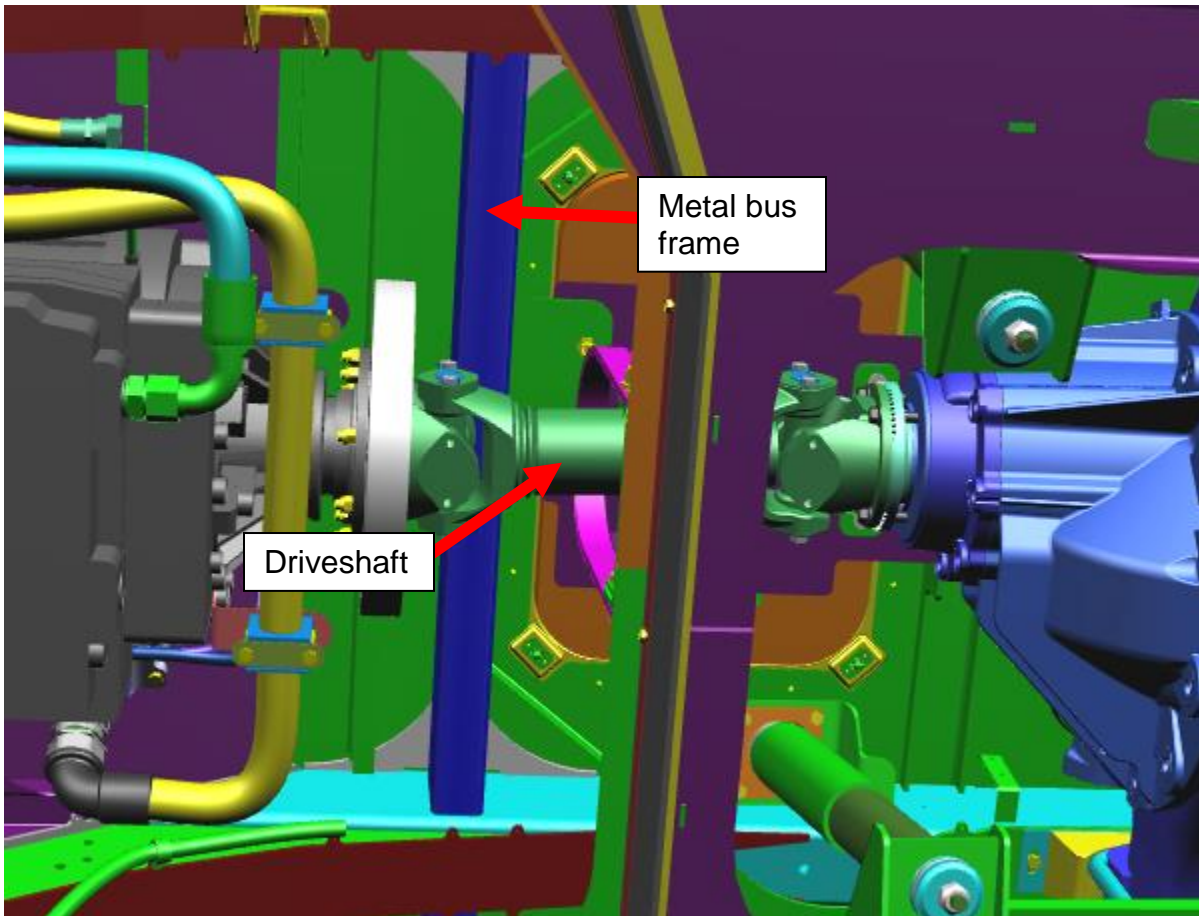

Figure 13: Original driveshaft underside
2. Support the driveshaft weight with ratchet straps to the bus frame as indicated in figure 13.
7. Support the weight of the new driveshaft using ratchet straps similar to note 2 and figure 13.